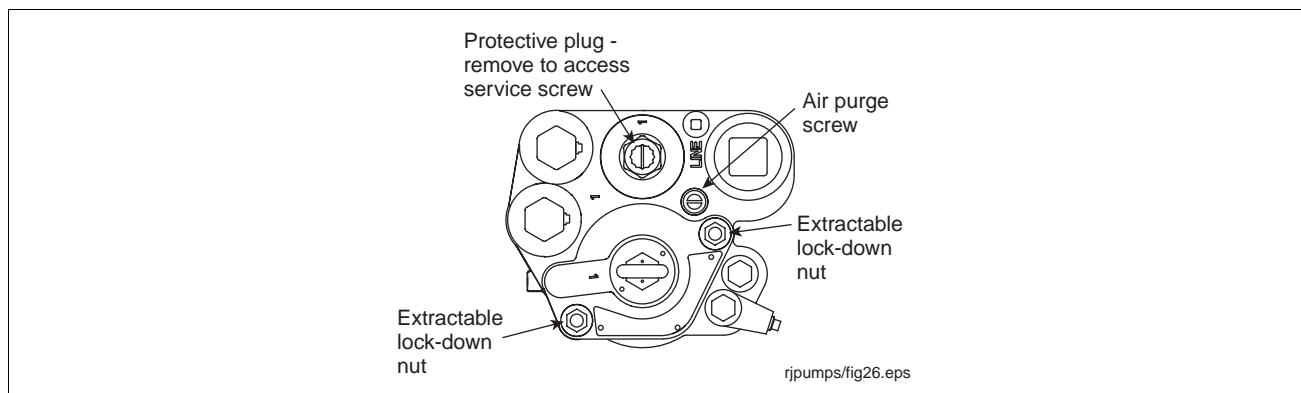

Figure 37. Extractable lock-down nuts
2. Remove the two extractable lock-down nuts (see Figure 37). The springs on the lock-down studs between the extractable's flange and the manifold will push it up, breaking the seals.